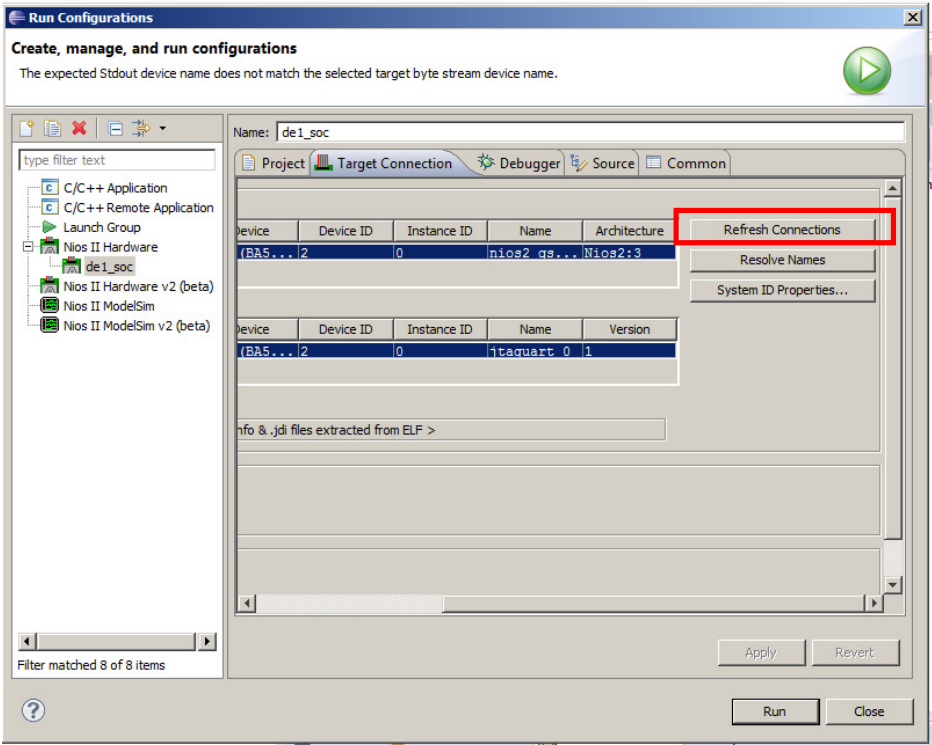

Figure 27 Configuration, Target Connection tab
- Switch to the *Target Connection* tab. Into the section *Connections* on the right-most side click **Refresh Connections**. Now the boxes *Processors* and *Byte Stream Devices* are filled with the correct board connection information (see Figure 27).